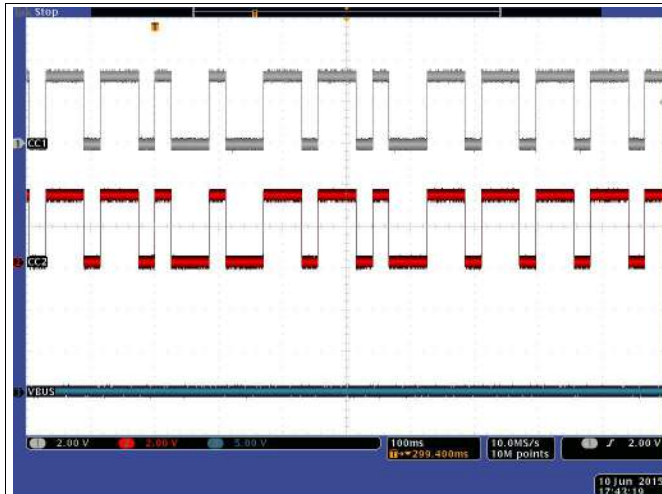

Figure 8. DRP CC1 and CC2 Toggling
- Verify the CC lines are toggling for dual-role port functionality (see Figure 8).